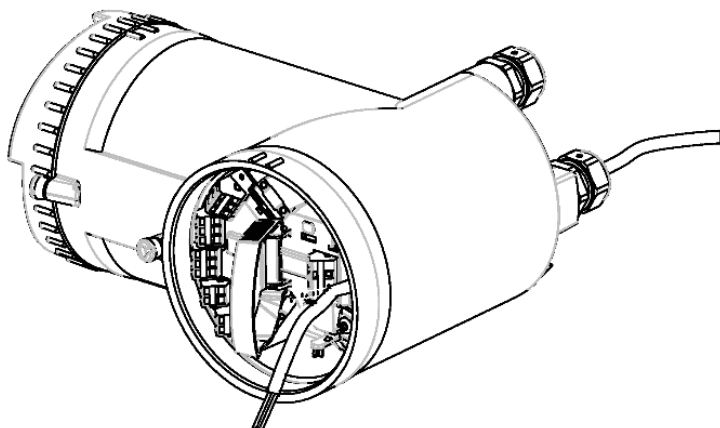

Fig. 40: Open power supply terminal
5. Connect ground to terminal \oplus and power to terminals L/+ and N/- using wiring tool in the manner shown in Fig. 40.